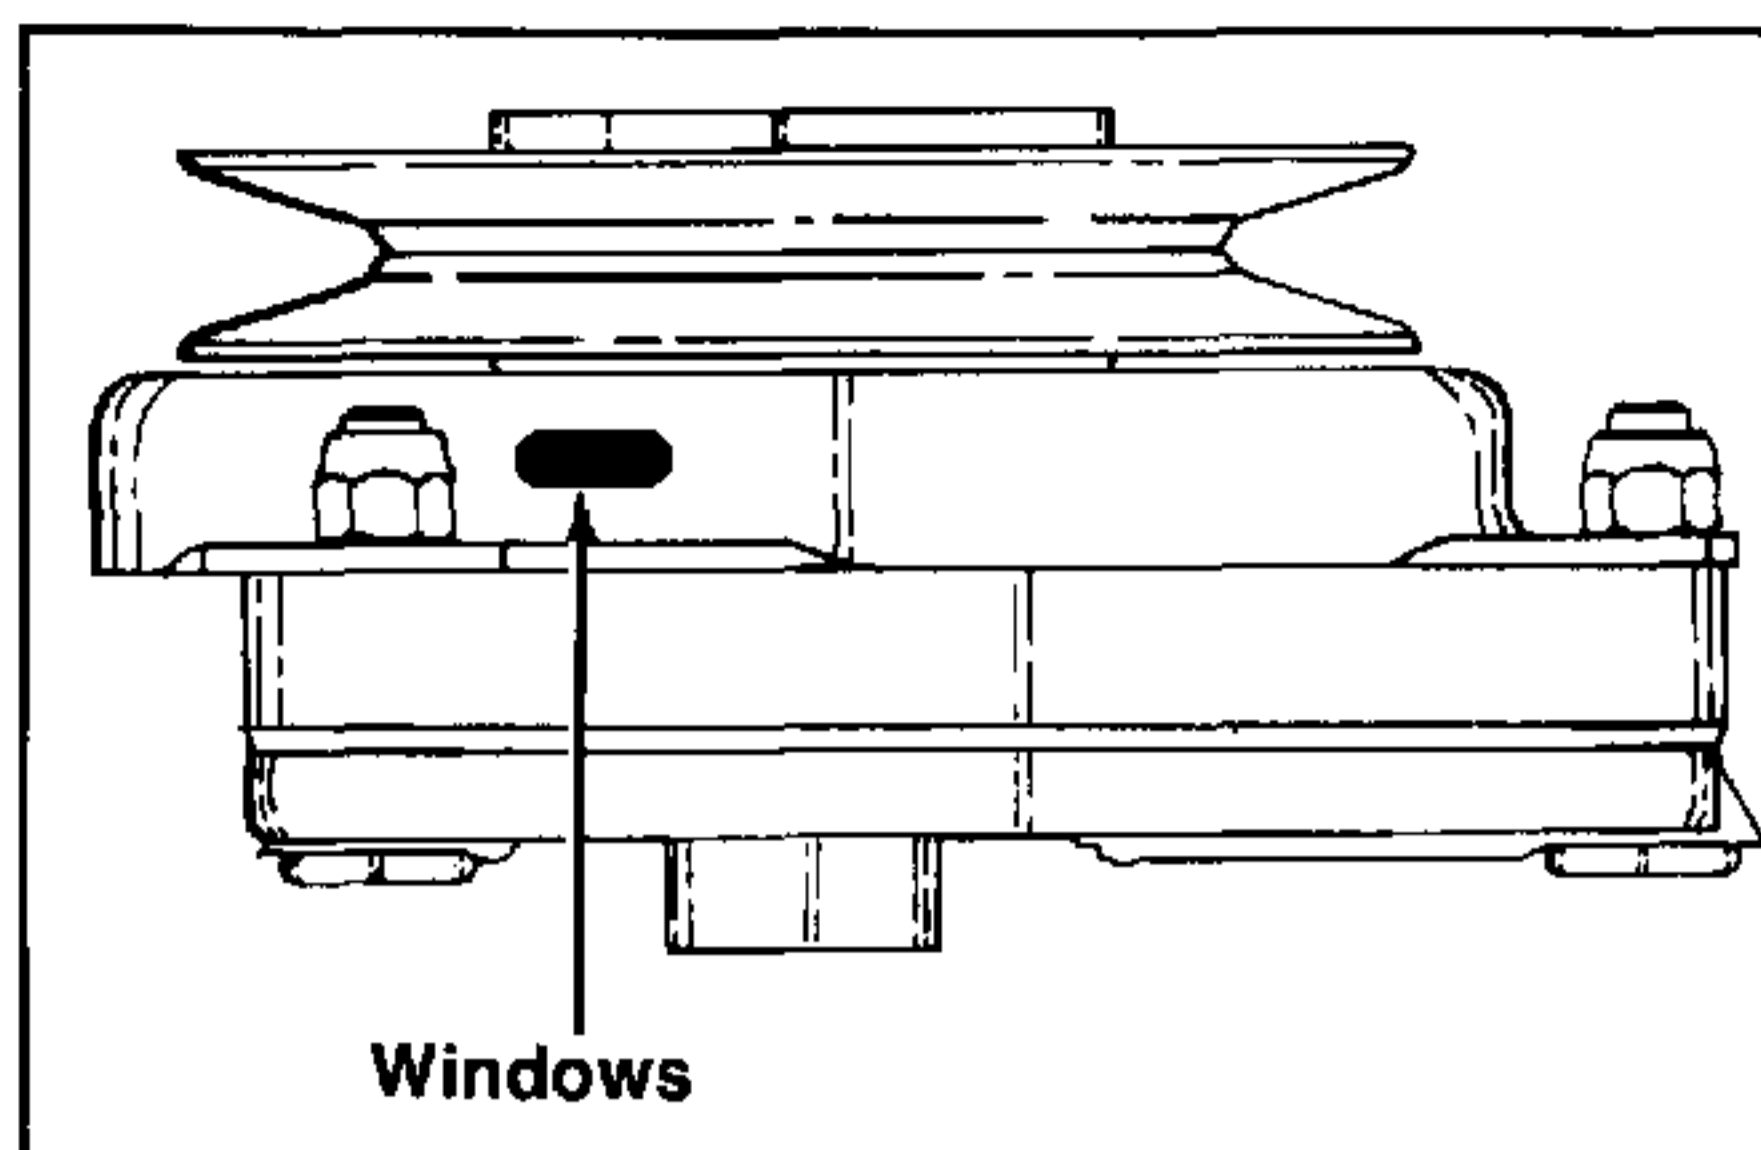

FIGURE 3.
2. Locate the three "windows" or "notches" where the air gap is checked (see figure 3).